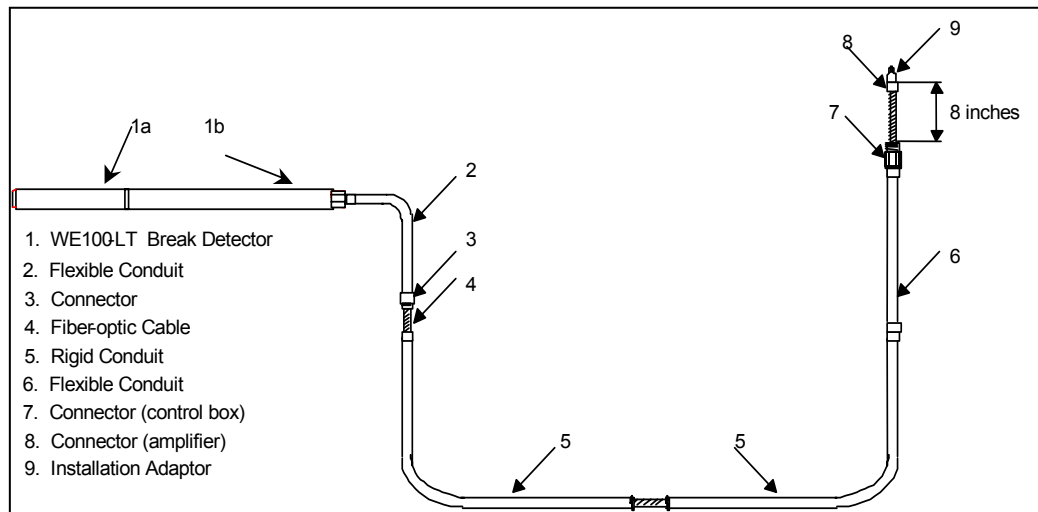

Figure 13. Installation of WE/3-6-9 LT fiber-optical cable.
- Option: Full length flexible conduit (fig. 13)